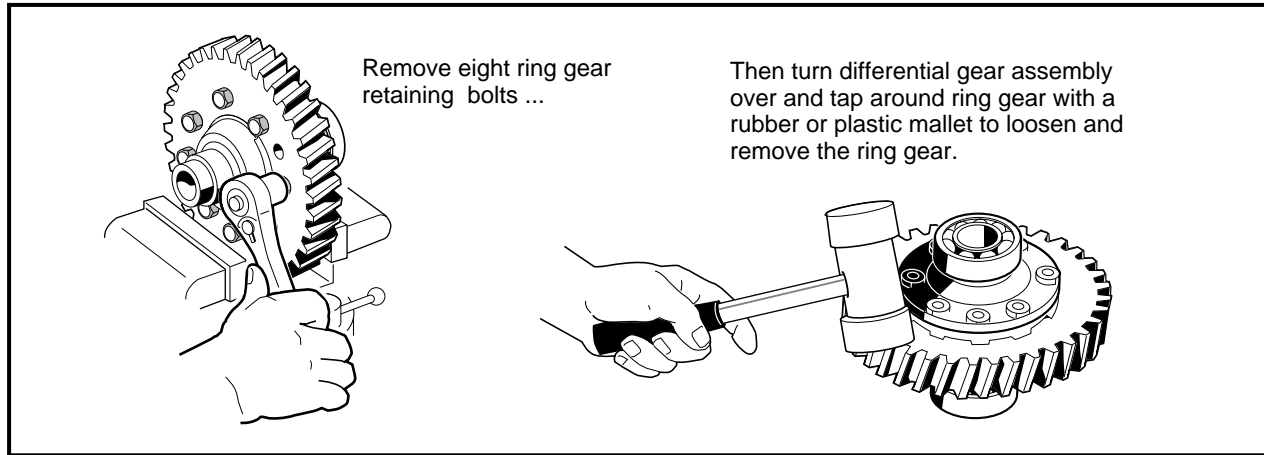

Figure 16-44 Remove Ring Gear
1. Remove eight ring gear retaining bolts (80) (**Figure 16-5, Page 16-4**), and remove the ring gear from the assembly. It may be necessary to tap the ring gear off with a plastic or rubber mallet (**Figure 16-44, Page 16-20**). See following **NOTE**.